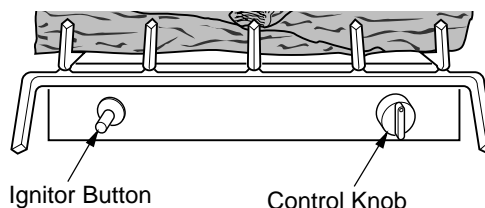

Figure 27 - Control Knob and Ignitor Button Location
4. Wait five (5) minutes to clear out any gas. Then smell for gas, including near the floor. If you smell gas, STOP! Follow "B" in the safety information on page 17, column 2. If you don't smell gas, go to the next step.
5. Press in control knob and turn counterclockwise  to the PILOT position. Keep control knob pressed in for five (5) seconds (see Figure 27).